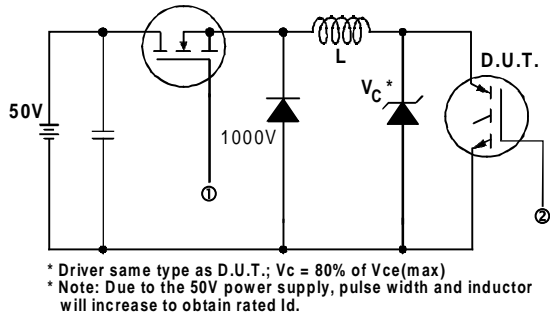

Fig. 13a - Clamped Inductive Load Test Circuit
- ② $V_{CC} = 80\%(V_{CES}), V_{GE} = 20V, L = 10\mu H, R_G = 23\Omega$, (See fig. 13a).
- ③ Repetitive rating; pulse width limited by maximum junction temperature.
- ④ Pulse width $\leq 80\mu s$; duty factor $\leq 0.1\%$.
- ⑤ Pulse width $5.0\mu s$, single shot.